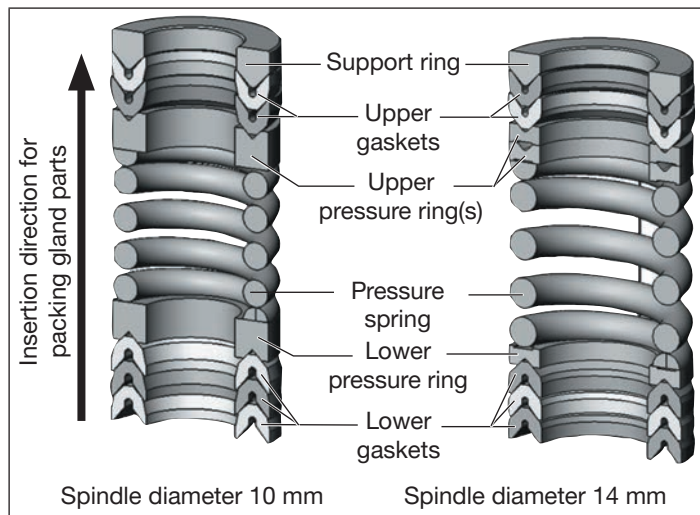
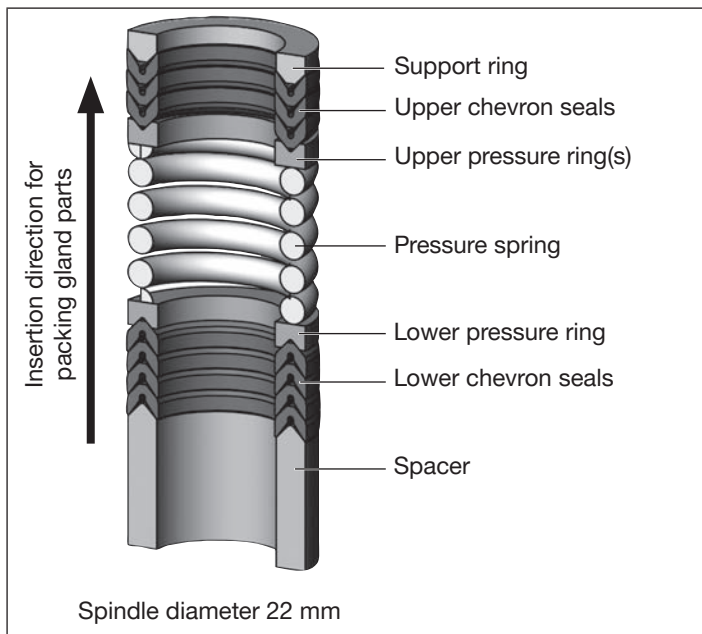

Fig. 29: Seal set for packing gland
Fig. 30: Seal set for packing gland SP22
- Connect the individual parts to the spindle in the specified direction and sequence (as illustrated in “Fig. 29” or “Fig. 30”).